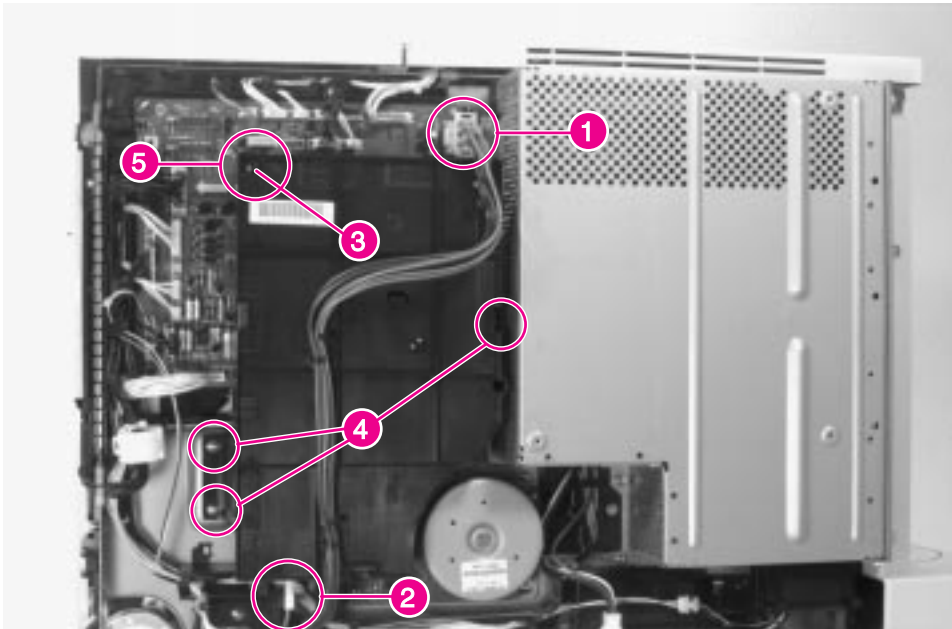

Figure 6-41 High Voltage Power Supply
- 2 Remove the HVPS (see figure 6-41 on page 205).
- 3 Remove the High Voltage Power Supply (see figure 6-41 on page 205).
- High Voltage Power Supply (HVPS) (see figure 6-41 on page 205)
- 2 Unplug the cable from the LVPS to the DC Controller PCA (figure 6-41, callout 1), and move it out of the way.
- 3 Unplug the connector from the bottom of the HVPS (figure 6-41, callout 2).
- 4 Remove 1 self-tapping screw (figure 6-41, callout 3) and 3 screws (figure 6-41, callout 4).
Make sure that the plastic alignment pin (figure 6-41, callout 5), the connector pins, and the high voltage contacts are properly aligned before replacing the screws.